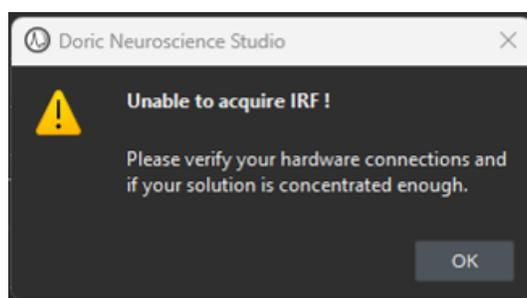

Figure 5.1: ERROR: Unable to Acquire IRF
- TIP: The best way to confirm that your fiber is clean is to take an IRF in air. If the IRF throws an error (as in Fig. 5.1), then that means that there is correctly no signal (i.e. no fluorescent residue) on the tip of the fiber and it is clean.
- Result in baseline signal too weak for a measurement (obtain error like Fig. 5.1)